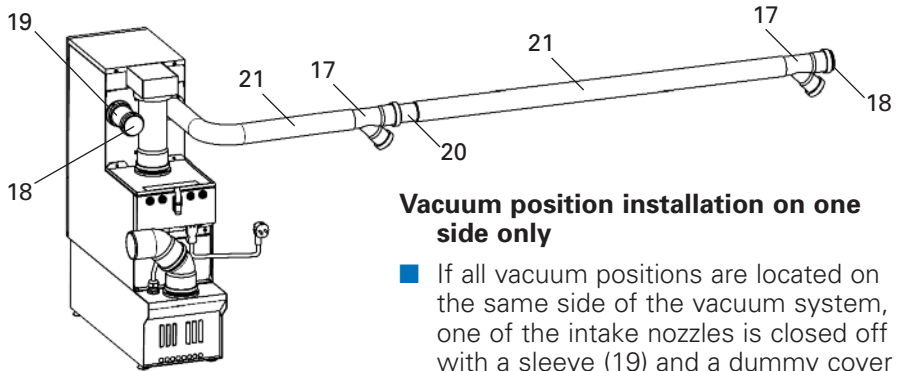

Fig. 3:
- Connect the vacuum positions and the intake nozzles (12) with the 50-mm suction hose (see Figs. 3 and 4, page 10).
- Use the control cable to connect one of the connectors (13) on the suction unit to the appropriate socket on the vacuum position opener.
- Connect the power cable (8) to the vacuum system and to the wall socket.
- Make sure that the exhaust and intake air promoter cooling at the back of the unit (16) can circulate freely.